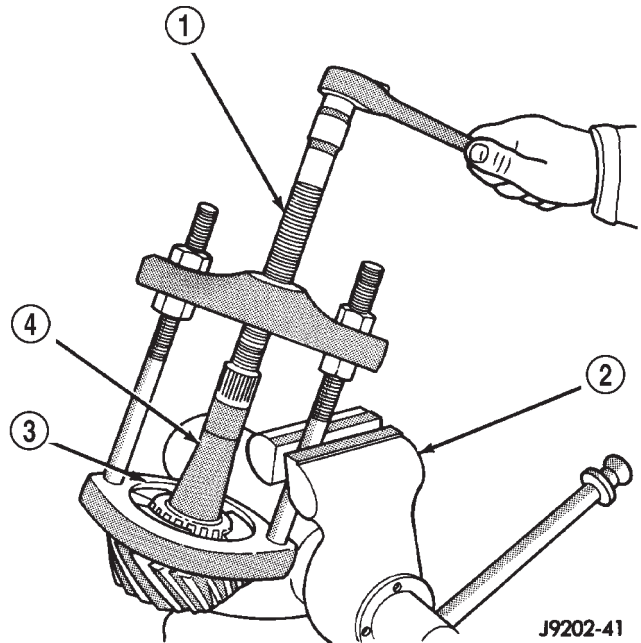

Fig. 42 Rear Bearing Removal
(9) Remove the rear pinion bearing from the pinion with Puller/Press C-293-PA and Adapters C-293-39 (Fig. 42).